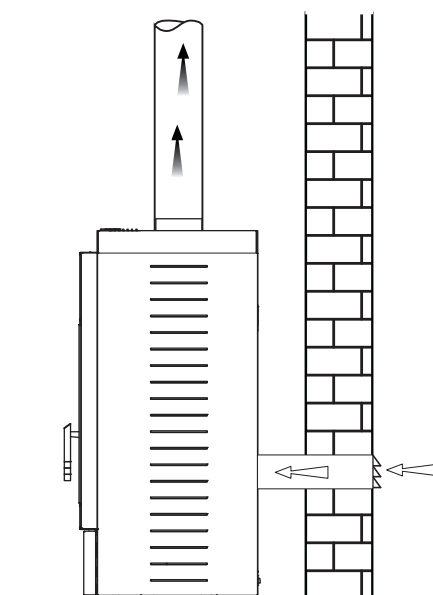

Fig. 5.6
- to ensure greater indoor comfort, the stove combustion air intake can be connected to the fresh air opening using a special pipe (Fig. 5.6).